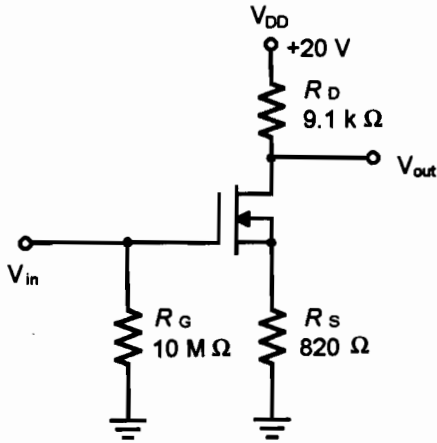

Figure 33.1
1. Construct the circuit of Figure 33.1. Apply DC power. This circuit should operate with a small  $V_{GS}$  value of approximately 0.5 V.
1. With circuit power off, reconfigure your circuit to that of Figure 33.1. Disconnect the ground end of the 1-M $\Omega$  gate resistor.